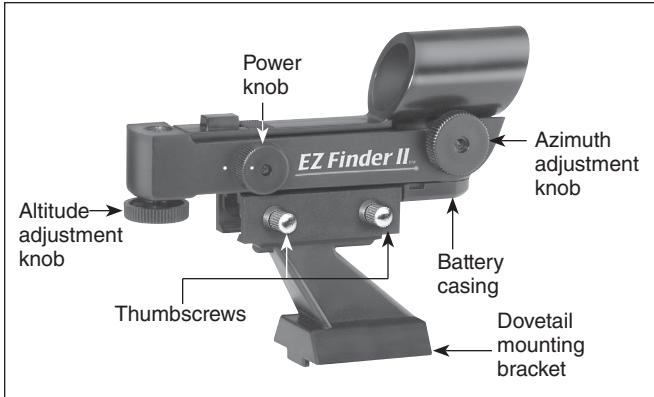

Figure 11. The EZ Finder II reflex sight.
1. Insert a small, flat-blade screwdriver into the notch in the battery casing and gently pry it off (**Figure 11**).
Turn the power knob (see **Figure 11**) clockwise until you hear the "click" indicating that power has been turned on. Look through the back of the reflex sight with both eyes open to see the red dot. Position your eye at a comfortable distance from the back of the sight. In daylight you may need to cover the front of the sight with your hand to be able to see the dot, which is purposefully quite dim. The intensity of the dot is adjusted by turning the power knob. For best results when stargazing, use the dimmest possible setting that allows you to see the dot without difficulty. Typically a dimmer setting is used under dark skies and a bright setting is used under light-polluted skies or in daylight.
Without moving the main telescope, use the EZ Finder II's azimuth (left/right) and altitude (up/down) adjustment knobs (**see Figure 11**) to position the red dot on the object in the eyepiece. When the red dot is centered on the distant object, check to make sure that the object is still centered in the telescope's field of view. If not, re-center it and adjust the EZ Finder II's alignment again. When the object is centered in BOTH the eyepiece and the EZ Finder's red dot, the EZ Finder II is properly aligned with the telescope. Once aligned, the